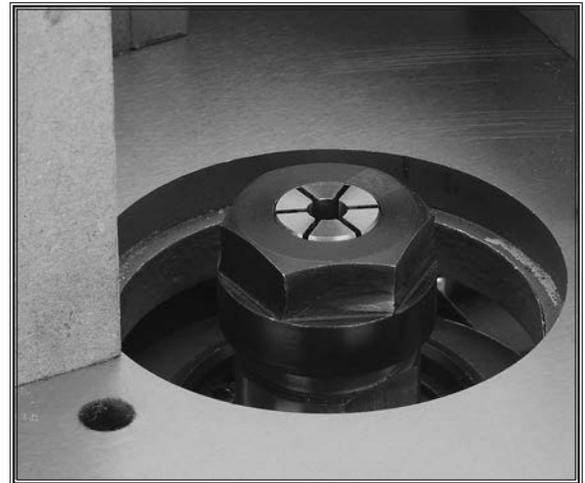

Figure 30. Installed collet flush with top of collet nut.
3. Place collet nut and collet into spindle. See **Figure 30**.